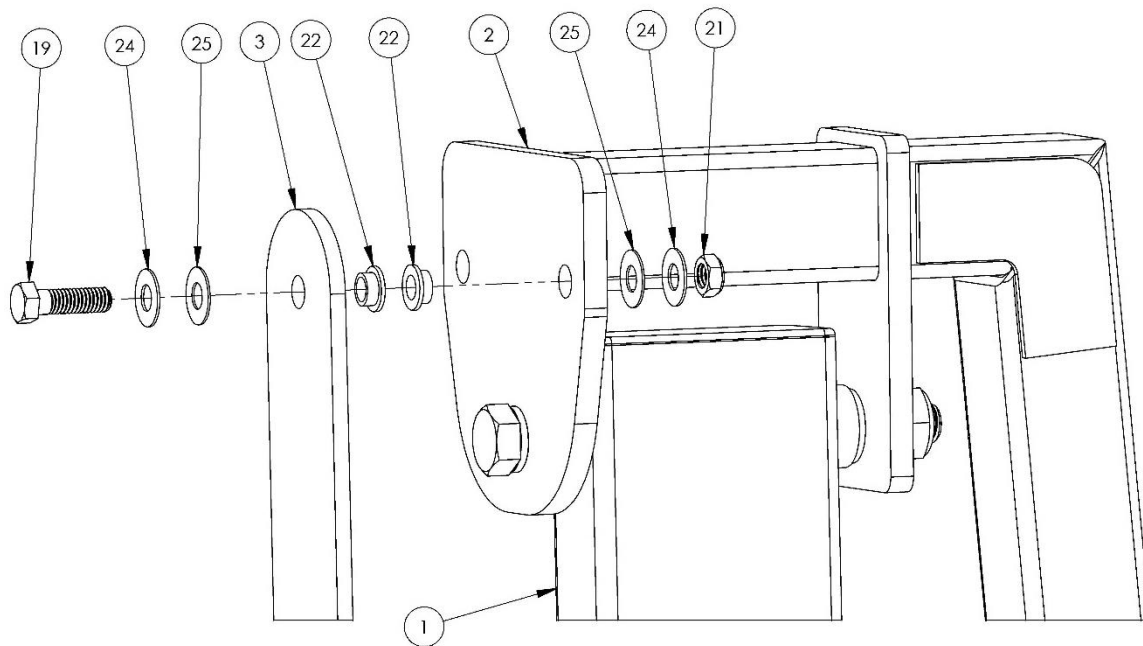

Figure 7
9. Use Hardware Kit 580-7200 to attach the seat leveling arm to the seat arm as shown in Figure 7.